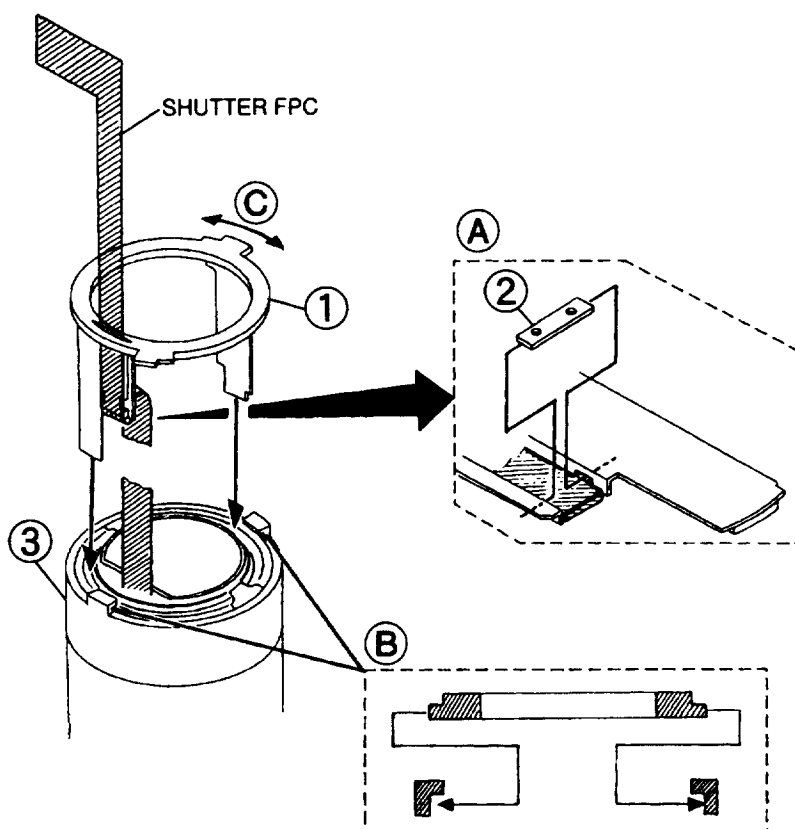

Fig26
- (16) Fix the SHUTTER FPC to the HELLICOID RING (①) as shown in Fig.26.
- (17) Set the FPC GUIDE 1 (②) as shown in Fig.26, (A).
- (18) Set the HELLICOID RING (①) into the HELLICOID FRAME UNIT (③) and turn the HELLICOID RING ((C)) to set the ZOOM at TELE then engage two CLAWS ((B)) as shown in Fig.26.
- (19) Set the ZOOM at HOUSING position by turning the HELLICOID RING. (Fig. 26, (C))